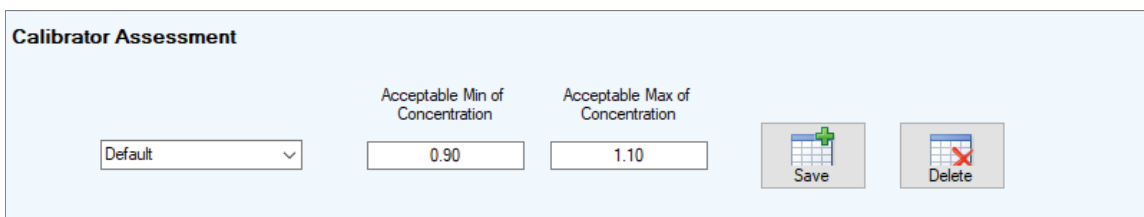

Figure 90. Setting Calibrator Assessment values on the 'Configuration' tab.
3. Enter values for the "Acceptable Min of Concentration" and the "Acceptable Max of Concentration" (Figure 90). These values are expressed as a ratio and must be numerical (e.g., set "0.90" as Acceptable Min of Concentration and "1.10" as the Acceptable Max of Concentration).